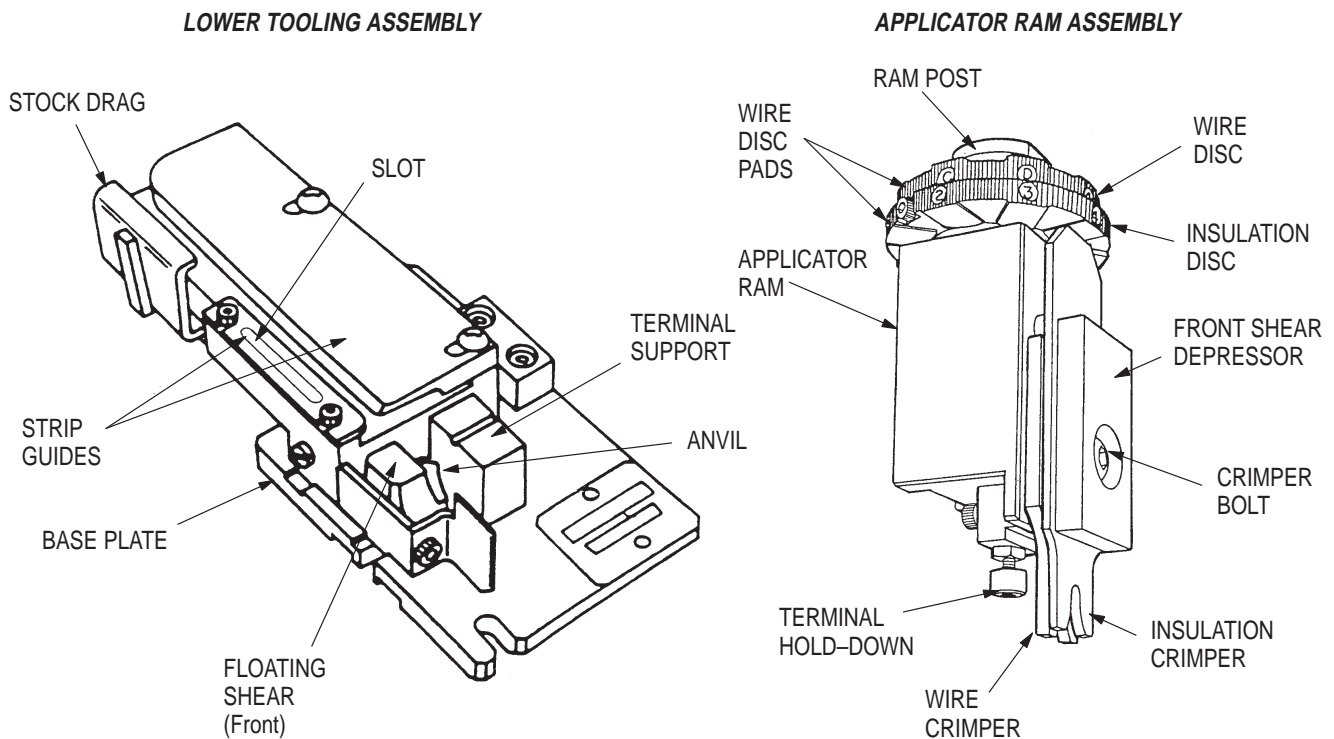

Figure 2-2. Typical Applicator
C. Applicator (Typical, Figures 2-2 and 6-1)